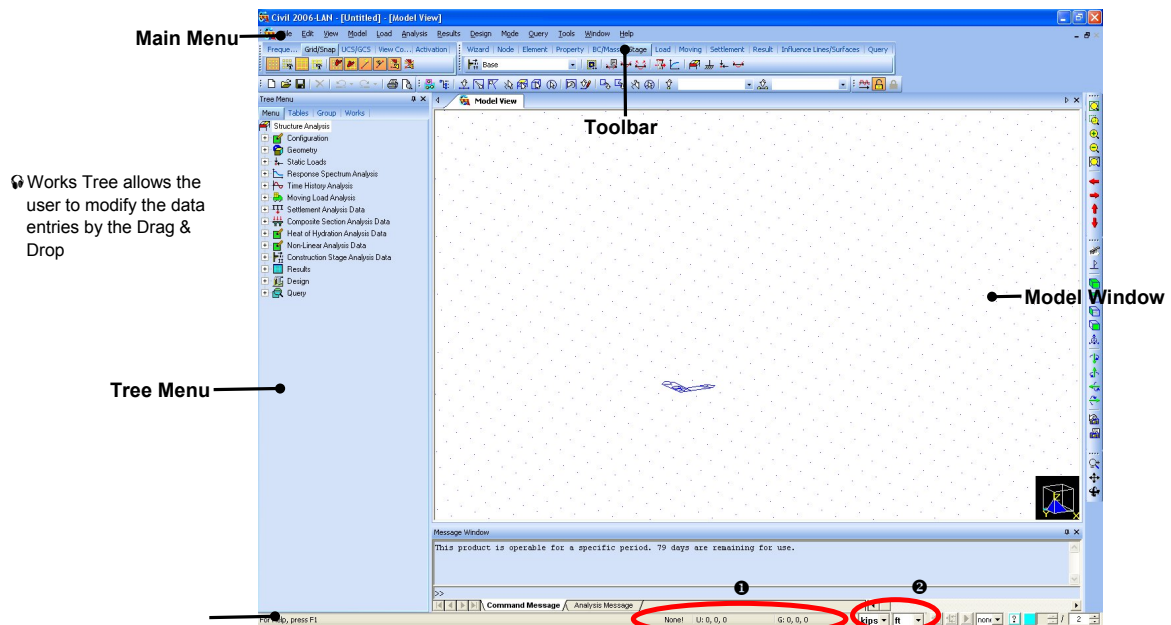

Figure 1.2 Default Window
*The data input window and the unit display at the bottom of the screen (Status Bar – Fig.1.2–①) indicate the unit system in use and this reduces the possibility of errors. In this example, “ft” and “kip” units are used.*
① The Toggle on/off status of the icon depends on the initial setting of Civil. It is advisable to toggle on the icons suggested in this tutorial to avoid any error.
In MIDAS/Civil, the user can modify the placement of icons as desired. In addition, the user can add *Node*, *Element*, *Result*, *Property*, *Influence Lines/Surfaces* and *Query Toolbars* to *Toolbars* (Fig. 1.2) in the working window. It is also convenient to place *Node*, *Element* and *Property Toolbars* at the desired positions during the node and element generation.
The coordinates of the nodes, grids and mouse cursor relative to GCS and UCS are displayed in the Status Bar (Fig.1.2—①).